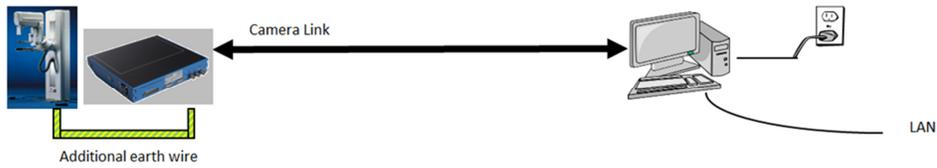

Figure 19: Detector earthed to medical equipment. The same applied to GigE.
- Additional protective earthing of the detector to the medical system (for both CL and GigE, Figure 19).